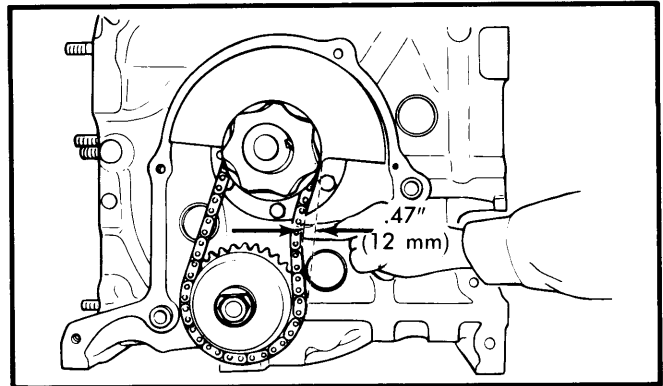

Fig. 26 Measuring Oil Pump Drive Chain Slack
2) Check oil pump drive chain slack by pressing finger against chain. See Fig. 26. Chain slack measurement should not exceed .47" (12 mm). If the slack exceeds the limit, replace drive chain.
1) With front engine cover removed, check oil pump drive chain slack by pressing finger against chain and measuring slack. If measurement exceeds .47" (12 mm), replace drive chain. See Fig. 26.